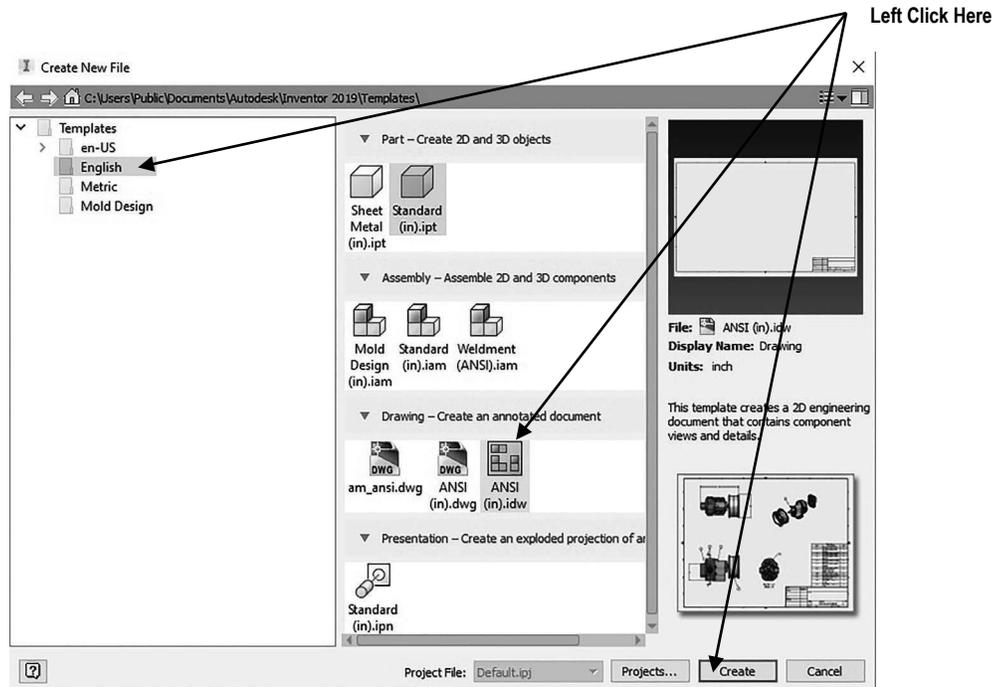

Figure 10
13. The Create New File dialog box will appear. Left click on the **English** folder. Left click on the **ANSI (in).idw**. Left click on **Create** as shown in Figure 10.